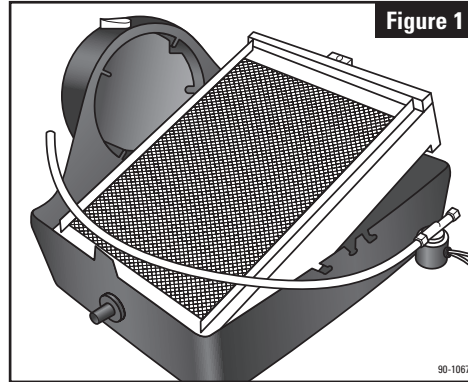

Figure 1
1. Remove front cover by pressing center tabs on top and bottom of the cover (1) and base (2). Pull feed tube (3) out of the water distribution tray (4). Tip the evaporative assembly forward and lift it out of the humidifier. (See Figure 1)
2. The humidifier comes assembled for left side discharge. If converting to right side discharge, the base can be rotated so round collar is facing to the right. Swap the location of the hole plug (10) and drain spud (9) if using a right side discharge. To remove the cap, push and twist from inside the housing while lifting the cap up slightly on the outside. To remove the drain spud, twist and push from the outside of the base.